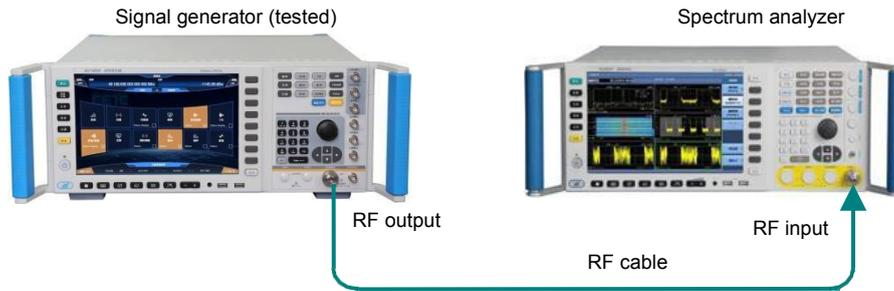

Fig.7.8 Pulse Modulation Rise/Fall Test
**Step 2.** Connect the device as shown in Fig.7.8.